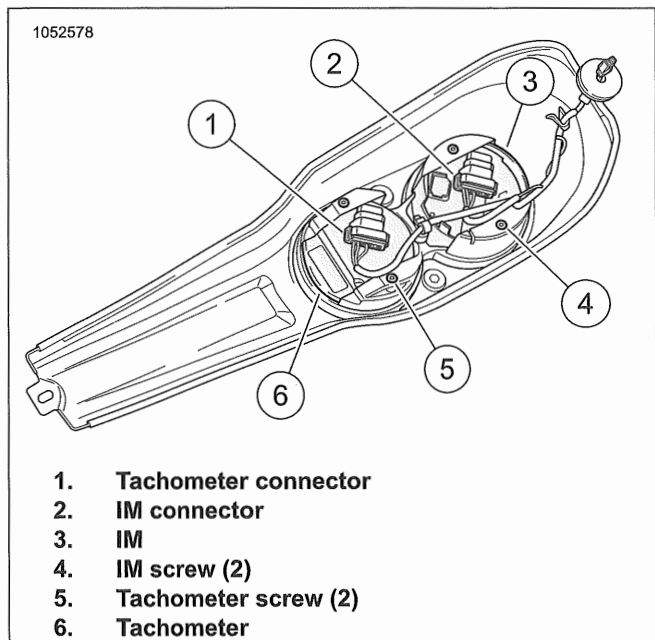
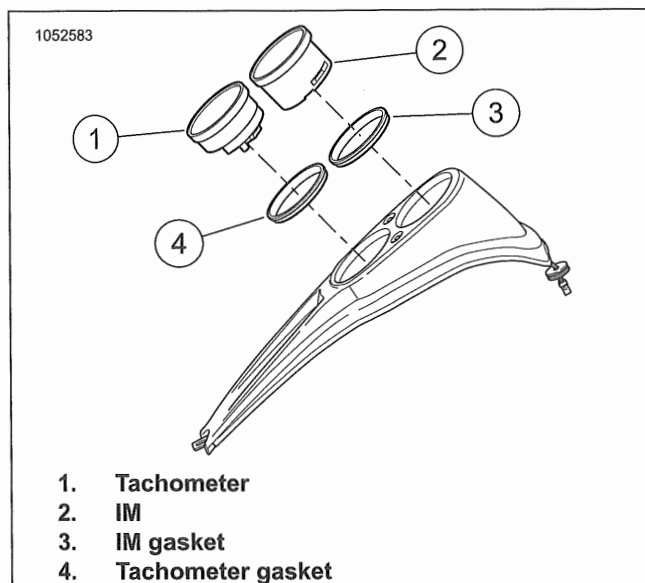

Figure 7-34. Console: FXLR
Figure 7-35. IM and Tachometer: FXLR
1. See Figure 7-34. Disconnect IM connector (2).
2. Remove IM screws (4).
3. See Figure 7-35. Remove IM (2).
4. Remove IM gasket (3).
1. See Figure 7-35. Install IM gasket (3) on IM (2).
3. See Figure 7-34. Install IM screws (4). Tighten.